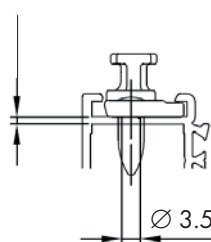

Fig. 4 (2.1)
2.1 Jig ALU-EB-E (3.5 mm) for frame (hole Ø 3.5) (fig. 4)	MAR80060-500010
Position jigs ALU-EB-E (see fig.3) and drill boreholes for strikers E (**530**) (see fig. 4) with Ø 3.5 or (see fig. 5) with Ø 4.2 (remove markings).
- E** Insert ESG LM M6 (620) into the milling groove provided (fig. 4).
- F** Mount ESG LM M6 (620) with coupling screws M6 (907) to the operating rods.